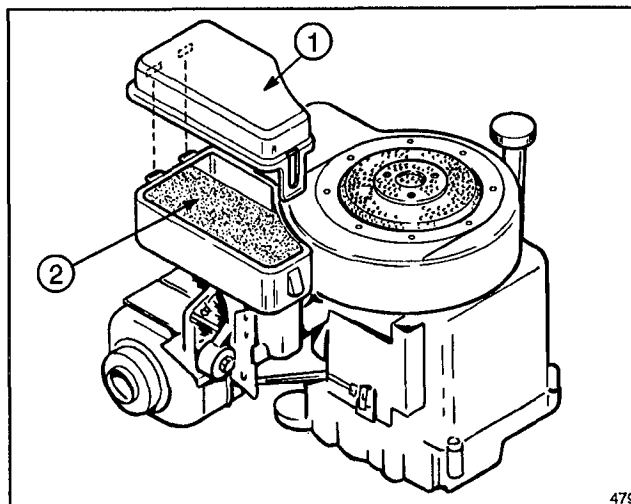

Figure 18
2. Unsnap and lift air cleaner cover off carburetor (Fig. 18).
3. Remove foam element (Fig. 18). Examine element for dirt or discoloration and clean if necessary.